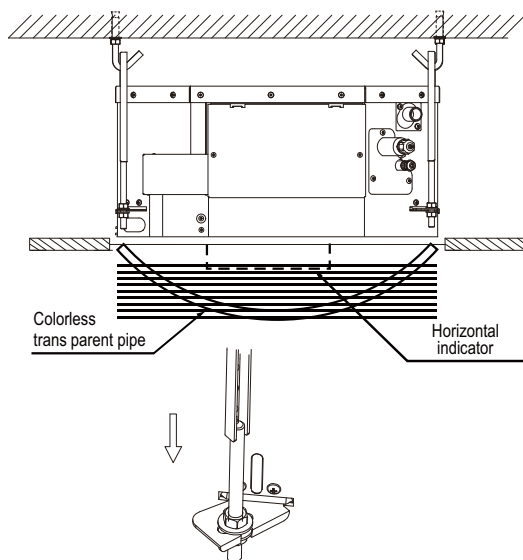

Figure 3.9
- Use adjustable mounting hooks to make sure that the unit body is level, otherwise it may cause water to leak. Calibrate the levelness of the unit using a spirit level or polyethylene tube filled with water. See Figure 3.9.